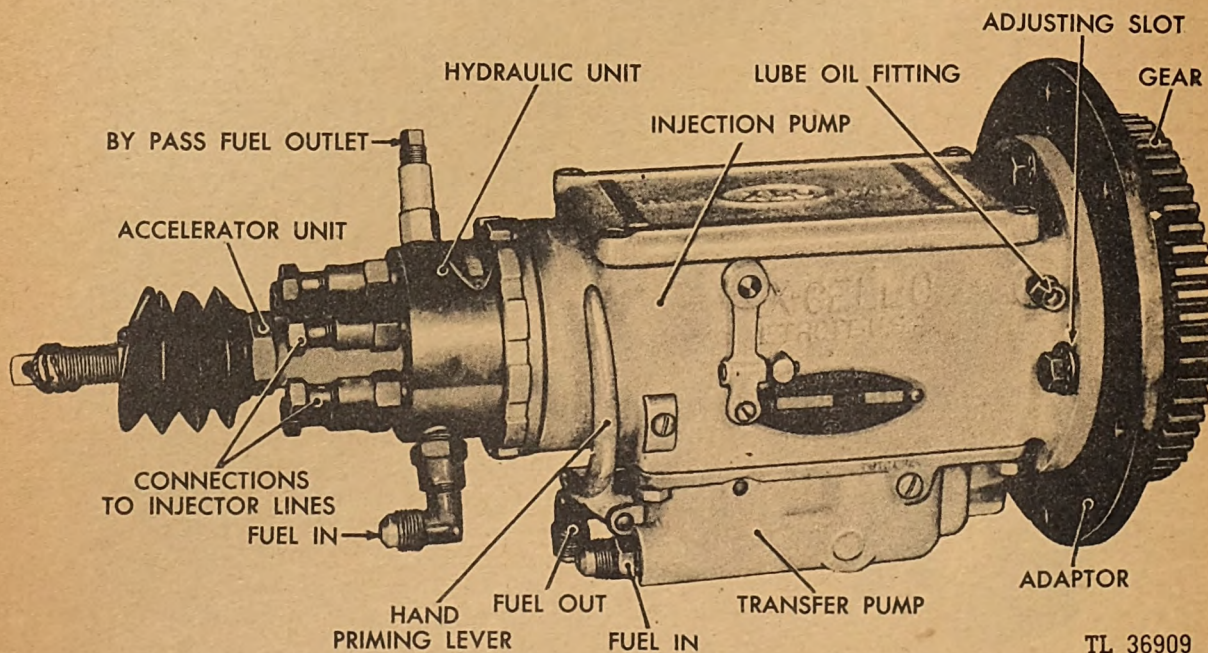

Fig. 257. Fuel Injection Pump
The pump provides the means for the transfer of fuel from the tank under low pressure to the injection nozzles at high pressure. It has major control of the quantity and the time at which the fuel is injected. The pump is a self-contained unit, composed of four replaceable and interchangeable units. These are: (see Figure 257) drive unit, hydraulic unit, accelerator unit, and fuel transfer pump. The hydraulic unit and fuel transfer pump are mounted on the drive unit, which, in turn, is flange-mounted on the engine. The accelerator unit screws into the end of the hydraulic unit.
Fuel from the supply tank is drawn through the primary filter (see Figures 257 and 259), suction connection and suction valve (25) by the suction (leftward) stroke of the power piston. Motion of the power piston in the opposite direction raises the fuel pressure, which closes the suction valve and opens the discharge valve (26), forcing the fuel out of the transfer pump discharge connection through a secondary filter and into the inlet connection of the hydraulic unit (8). The transfer pump is of the type which automatically delivers the required varying volume of fuel under approximately a constant pressure, regardless of the load or speed at which the pump may be operated. The power piston has a constant stroke and, to allow the pump to deliver a variable volume of fuel, there is a spring-loaded "subtractor" piston (23) located in the same bore with the power piston. The movement of the "subtractor" piston is determined by the fuel pressure existing between this piston and the power piston; hence, at zero fuel delivery, the "subtractor" piston has a stroke equal to that of the power piston and at maximum delivery the stroke of the "subtractor" piston is zero. At any intermediate quantity of delivery the stroke of the "subtractor" piston accounts for a displacement volume, which represents the difference between the maximum possible quantity of delivery and the quantity of fuel actually required. The pressure of the fuel delivery is controlled by the pressure of the springs (22) exerted on the "subtractor" piston.